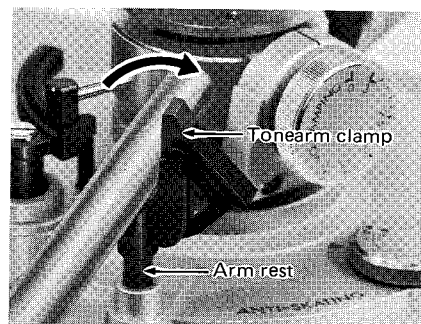

Fig. 16
6. Release the tonearm clamp. (See Fig. 16)